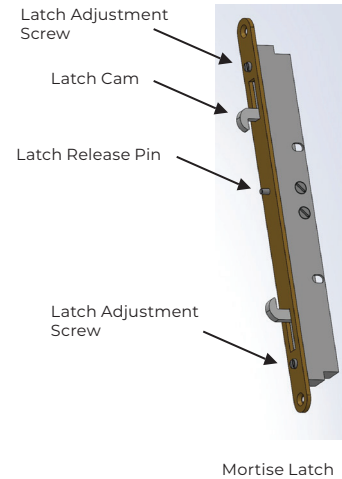

Figure 37
1. **Attach** keeper to corner receiver panel astragal using four (4) #10 X 1 1/2" pan head screws. Corner receiving astragal will be dimpled in the location the keeper is installed into the frame jamb.
- **HELPFUL TIP:** There is adjustment on the latch to move the cams in or out. Adjust the cams independently to remove play or add play to the latch engagement in the panel. If your unit has fixed panels it is recommended to adjust the cams in tight until the fixed panel is secured. Once the fixed panel(s), fixed panel clip(s), and retainer clip(s), have been completely installed, readjust cams to allow for a little bit of play in the operating door(s). (See Figure 37)